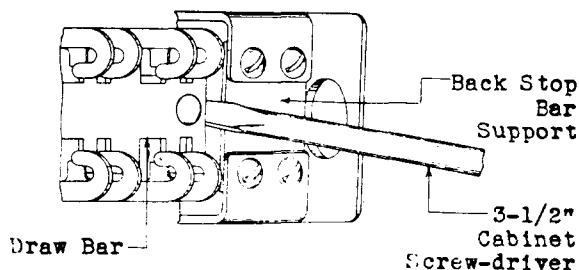

Fig. 14 - Method of Relieving Draw Bar Link of Spring Load
- (1) To tighten loose spring assembly screws remove the spring assembly from the mounting plate as follows. First note the separation between any pair of contacts for use as a reference when replacing the back stop bar, which must be removed in making this adjustment. Then, using the 3-1/2" cabinet screw-driver, remove the two screws which hold the back stop bar support to the magnet frame and also the back stop bar clamping screw or screws at the end of the back stop bar farther from the magnet. Do not loosen the back stop bar clamping screw at the magnet end. Remove the back stop bar by pulling the end farther from the magnet forward and then sliding the back stop bar support from behind the prongs of the magnet frame towards the contact springs.
- (2) Relieve the draw bar link of the spring load and disconnect it from the draw bar as follows: Insert the 3-1/2" cabinet screw-driver between the draw bar and the adjacent back stop bar support farther from the magnet, as shown in Fig. 14, and move the draw bar toward the magnet by twisting the screw-driver. Grasp the draw bar link with the long nose pliers and disconnect it from the draw bar pin. Do not turn the draw bar adjusting nut.
- (3) Remove the locating spring from the shoulders of the draw bar at the end farther from the magnet, simultaneously pressing the draw bar pin inward, thus permitting the other end of the draw bar to move outward. Remove the remaining locating spring from the draw bar. Grasp the draw bar near the pin with the fingers, and pull it outward in such a manner that the tangs of the back stop springs pass through the slots of the draw bar.
- (4) Unsolder the wires from the terminals of the spring assembly requiring ad-
(9) Insert the 3-1/2" screw-driver between the end of the draw bar farther from the magnet and the adjacent back stop spring support as shown in Fig. 14, and move the draw bar toward the magnet by twisting the screw-driver. Replace the draw bar link over the draw bar pin.
(10) Replace the back stop bar by inserting the back stop bar support attached to the back stop bar behind the prongs of the magnet frame. Then gradually worm the back stop bar into place exercising care that each spring is engaged by the proper slot in the back stop bar. Replace the two screws which hold the back stop bar support to the magnet frame, locating the back stop bar so that the separation between the contacts previously taken for reference, as outlined in (1), is the same as it was before any screws were loosened or removed, and then tighten the two screws securely. Replace and securely tighten the back stop bar clamping screw or screws.